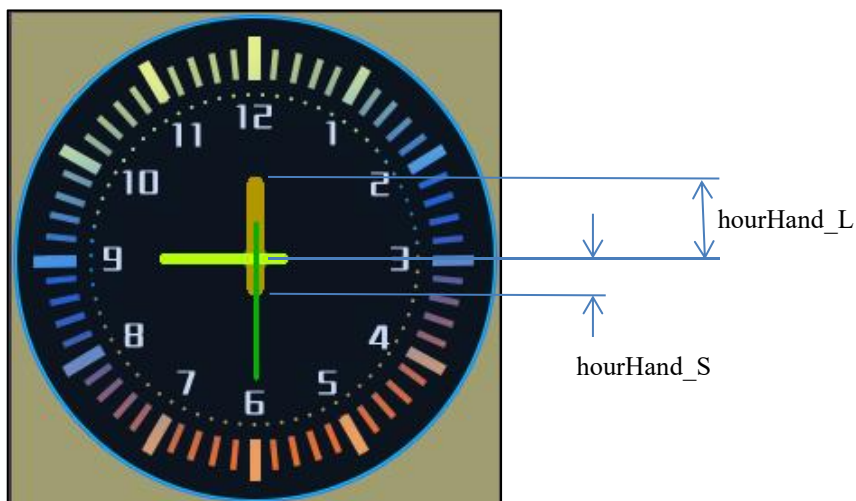

Figure 6-30: hourHand_L and hourHand_S
- hourHand_L** : The length of the hour hand on the longer side. See example depicted in Figure 6-30.
- hourHand_S** : The length of the hour hand on the shorter side. See example depicted in Figure 6-30.